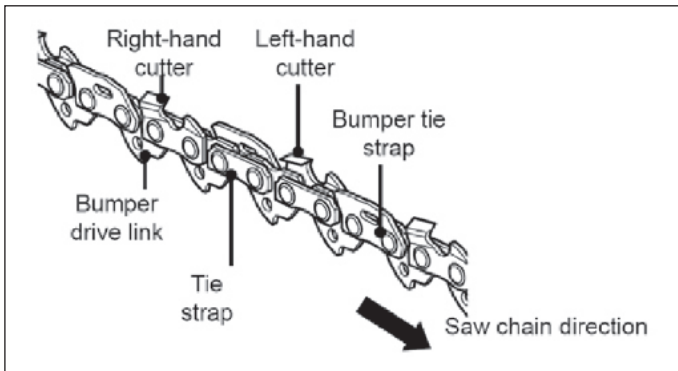

Fig. 23a
- 2). The height difference between the tooth and the ridge is the cutting depth. When sharpening the saw chain (D6) you have to consider the following points. (See Fig. 23a)